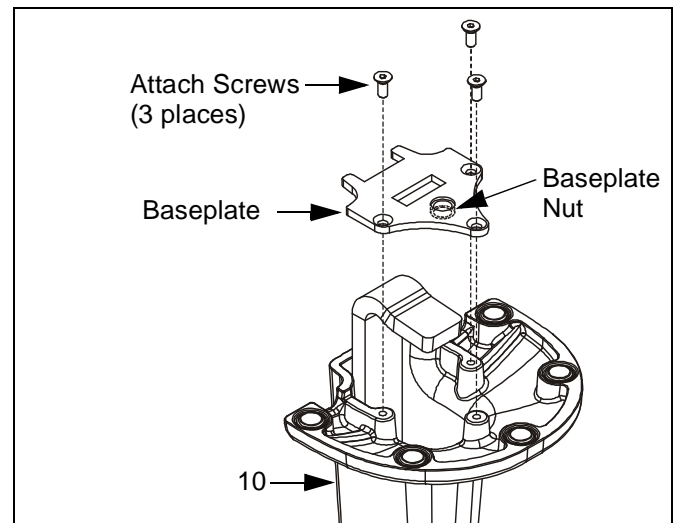

Figure 6: Baseplate
1. Using 2.5mm hex key, remove and retain baseplate and three attach screws from bottom of mount (10) (See Figure 6).
- Using 2.5mm hex key, re-install baseplate with three retained attach screws. Ensure baseplate nut faces interior of mount (See Figure 6). Tighten securely.